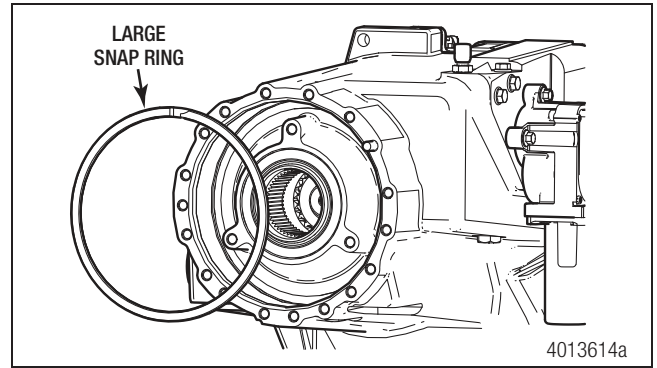
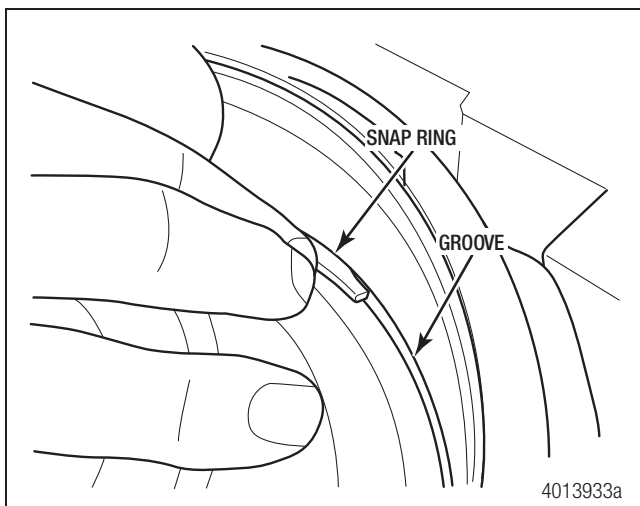

Figure 7.5
Figure 7.4
2. Start the end of the spiral snap ring in the groove in the housing and run your finger around it until it snaps into the groove completely. Figure 7.4 and Figure 7.5.